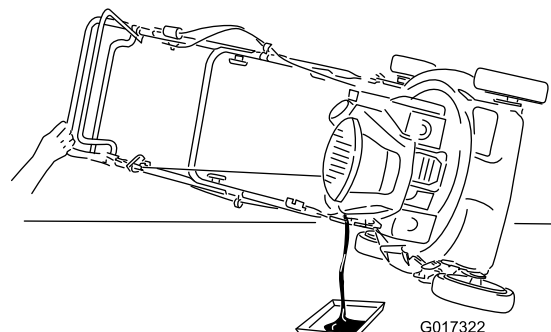

Figure 17
3. Tip the mower onto its side, with the air filter up, to drain the used oil out through the oil fill tube (Figure 17).